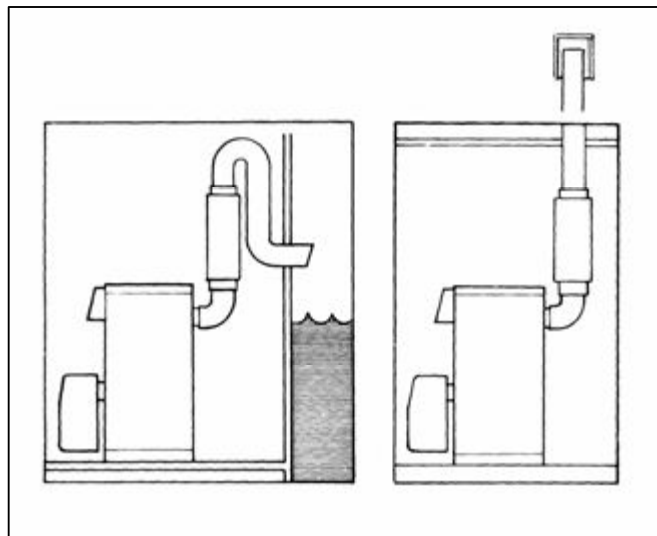

Figure 3
- Make sure that the outlet is positioned at a sufficient height above the waterline. If this not possible use a swan neck bend in the pipe as in figure 3.
- Install a proper storm cowl on top of the chimney (this must stop rain entering)(figure 3)